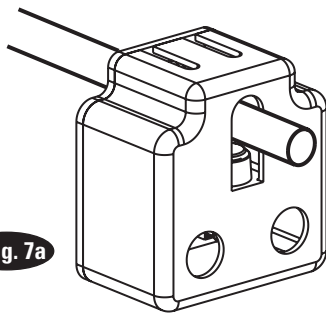

Fig. 7a
**6. Overhead Assembly:** Adjust overhead to 114" between centerline of sheave pins, Fig. 6. Install (4) 3/8"-16NC x 2-3/4" Flanged HHCS & Flanged Locknuts, do not tighten. Install overhead stiffener angle inside center of overhead using (4) 3/8"-16NC x 1" Flanged HHCS and Flanged Locknuts, see Fig. 6. Slide switch box over switch bar ensuring lockout holes face the power unit column. Use (2) 1/4"-20NC x 2-3/4" lg. HHCS, (2) flat washers, (2) 3/4" spacers, and (2) 1/4" star washers and nuts to mount switch box to overhead, Fig. 7a.